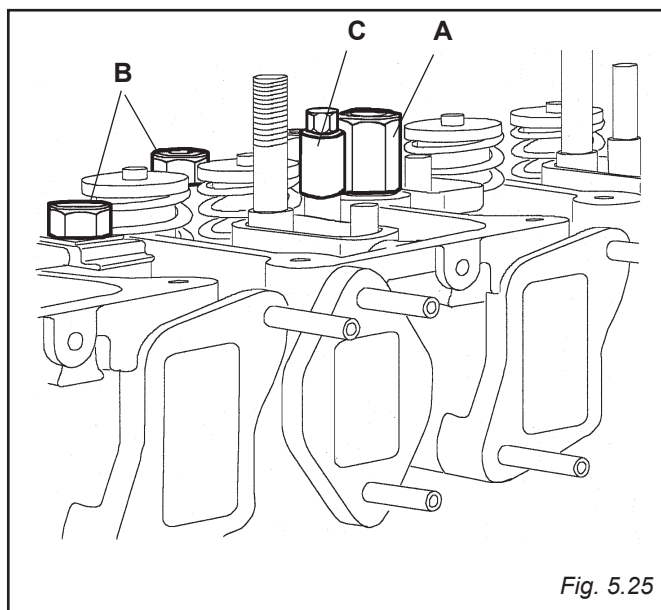

Fig. 5.25
5.32 CYLINDER HEADS (FIG. 5.25)